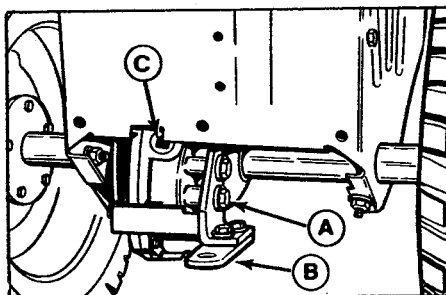

Figure 14. Transmission Oil Level Check (Drawbar Removed)
- a. Remove the transmission oil level check capscrew (A, figure 14).
- b. Oil should be level with bottom of hole. If not, remove the fill plug (C) and add Simplicity Multi-Purpose Hydraulic/Transmission Oil. When oil is level with check hole replace and retighten capscrew and fill plug. (Apply sealant to capscrew thread before reinstalling).